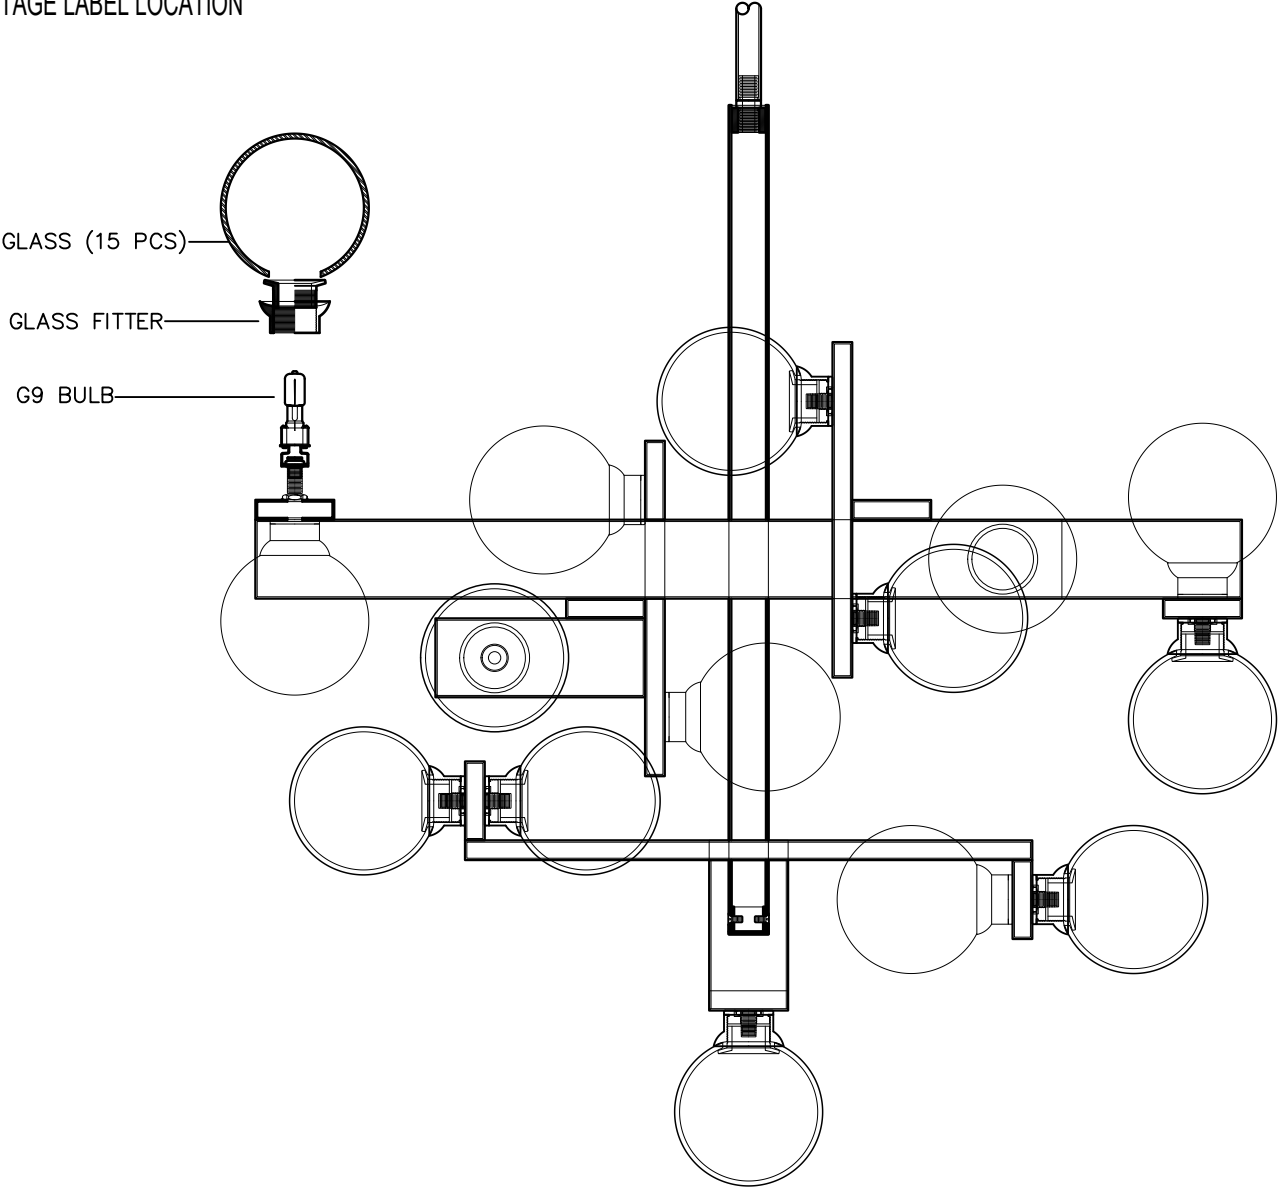

FIGURE-3
9. Place the glass diffuser into place using glass fitter attached with the glass. (See figure-3)